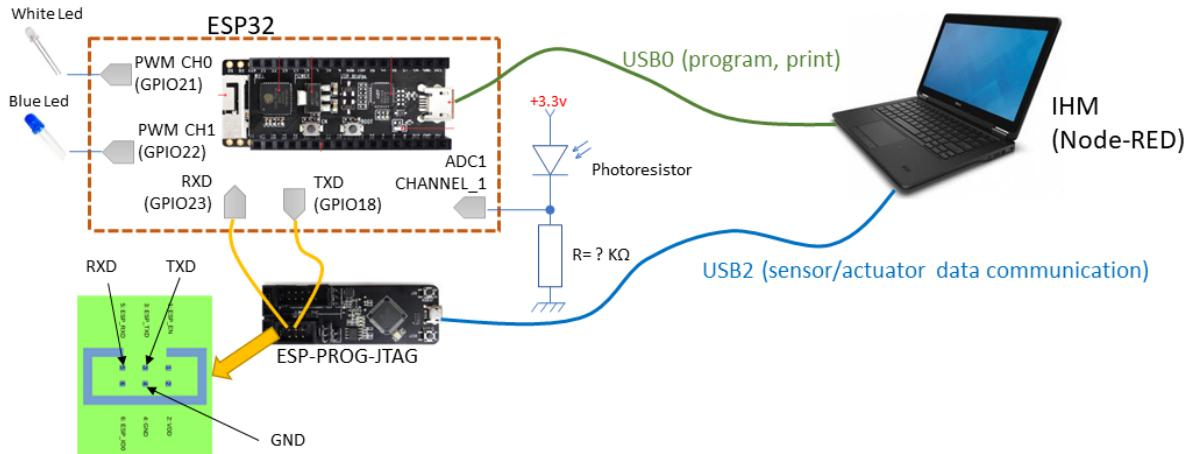

FIGURE 4.2 – Hardware specification.
The hardware specification is also depicted in the figure 4.2.
6. Wiring the board as depicted in the figure 4.2.